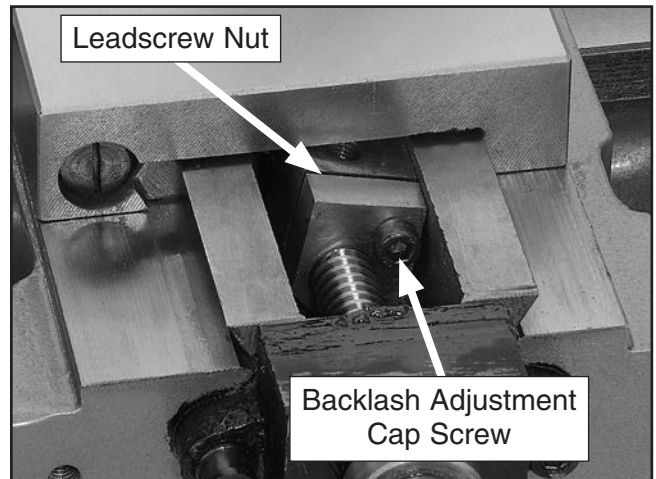

Figure 123. Leadscrew nut access.
4. Rotate cross slide handwheel to feed leadscrew nut out from under cross slide, as shown in **Figure 123**.
5. Tighten backlash adjustment cap screw shown in **Figure 123** in small increments.